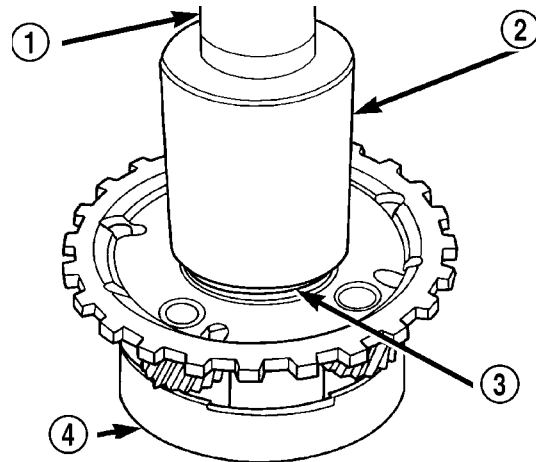

Fig. 97 Install Rear Carrier Bearing Cone
(11) Install rear carrier bearing cone using Tool 6053 (Fig. 97).